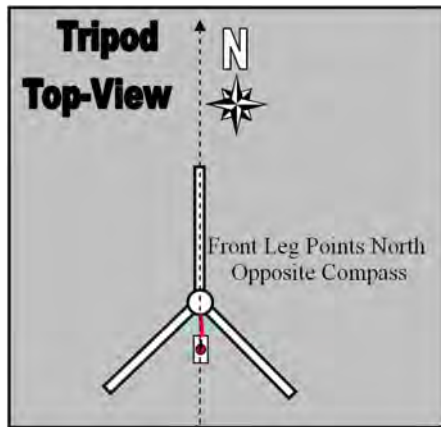

Figure 2. Tripod North Orientation Diagram
8. Using the attached compass, locate magnetic North. Point the opposite (front) tripod leg and align it North (magnetic North). Because the wind sensor and alignment arrows have already been aligned, the entire mast and wind sensor is now configured to magnetic North. See Figure 2.